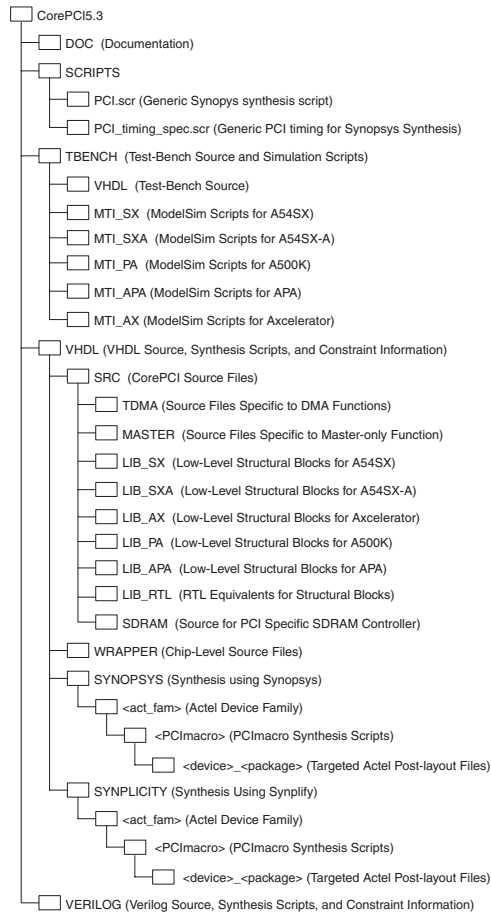

Figure 1-1. File Organization for the CorePCI Macro
The testbench files are in the “\tbench\vhdl” subdirectory. Figure 1-1 illustrates the complete file organization for the CorePCI macro.
In Figure 1-1, <act\_fam> is one of the 54SX (SX), 54SX-A (SXA), RTSX-S (SXS), Axcelerator (AX), A500K (PA), or APA (APA) device family.